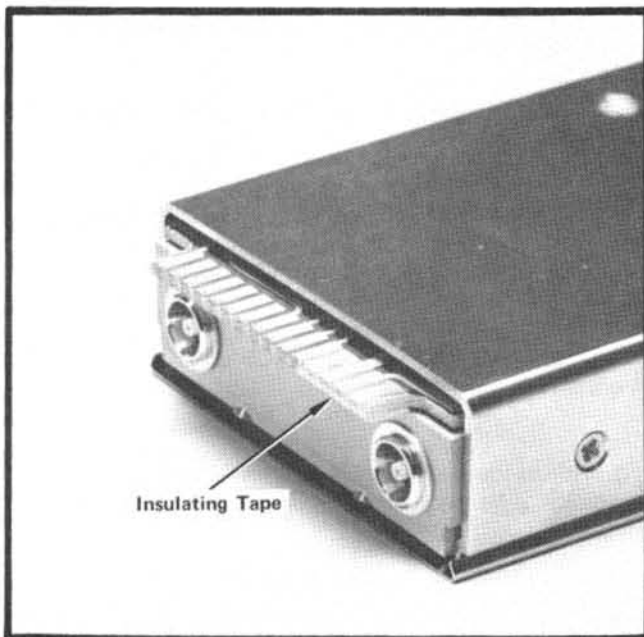

Fig. 4-4. Plug-in module connector partially insulated so the Hi Z calibrator level can be adjusted.
a. Remove the plug-in module and place insulating tape (e.g., Scotch tape) over pins A13-B13, A14-B14, A15-B15 of the interface connector (Fig. 4-4), then re-insert the plug-in module in its compartment.